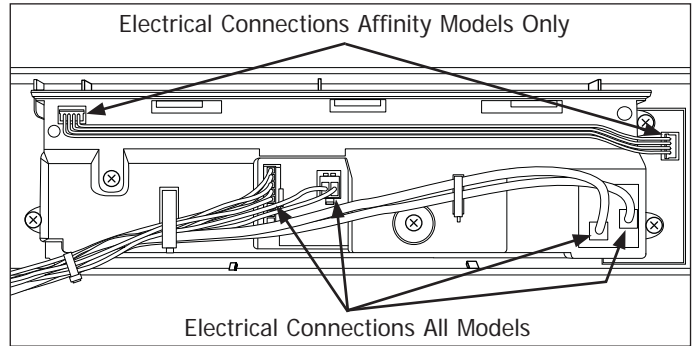

Figure 4-14. Affinity Control Shown
2. Disconnect all wire leads from console panel. (See Figure 4-14)